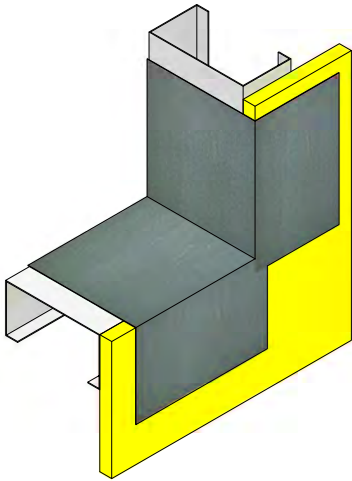

Figure 5
1. Mix ACROSTOP-R per the product bulletin instructions. Apply a generous receiving coat to the corners of openings and out onto the substrate. (See Figure 5)